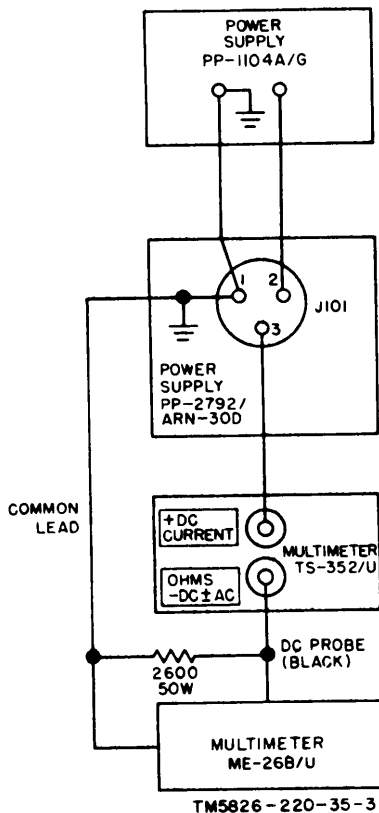

Figure 5. Bend-test setup.
various test equipments. The test power source and other test equipments must be connected as shown in figure 5.
a. Connect the power supply and test equipment as shown in figure 5.